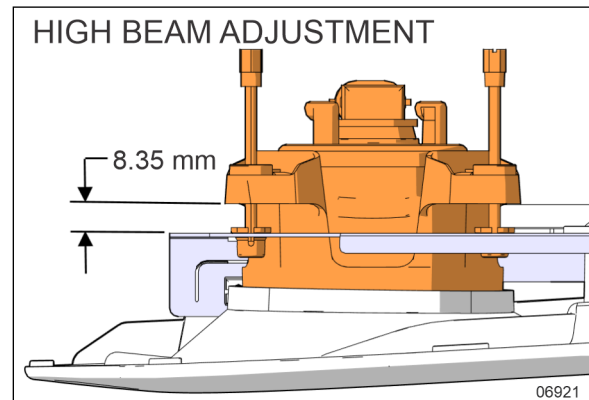
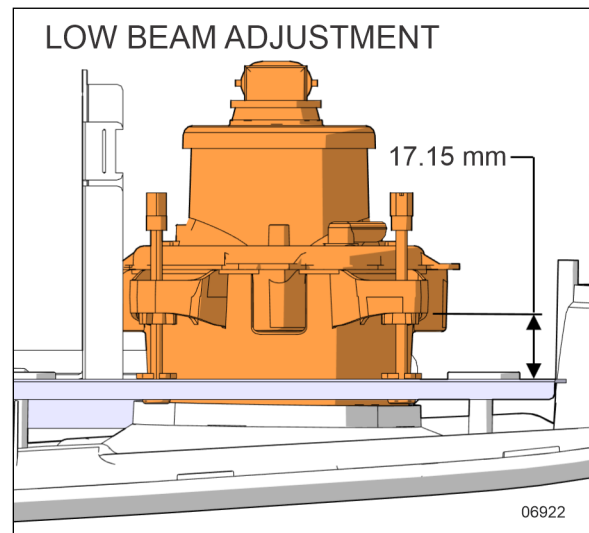

FIGURE 86: HIGH BEAM ADJUSTMENT
FIGURE 87: LOW BEAM ADJUSTMENT
9. Adjust the headlamp module height in relation to the metal support at each threaded rod. Screw threaded rods until height of the headlamp module reaches the values shown in Figure 86 & Figure 87.